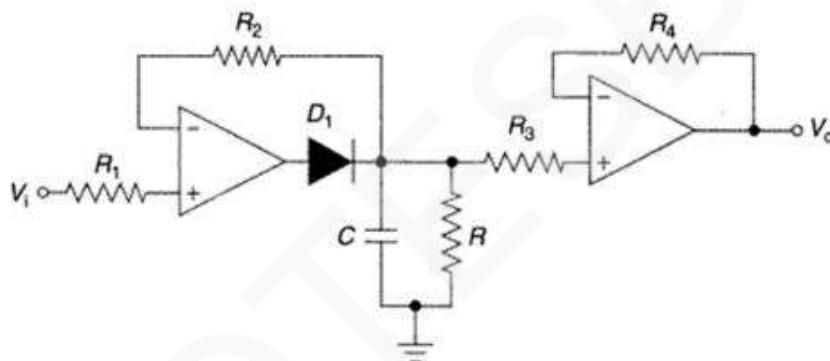

Figure 17.34: Peak Detector Circuit
- It is one of the applications of opamp (Figure 17.34).
- The capacitor can now discharge only through the resistor (R) connected across it.